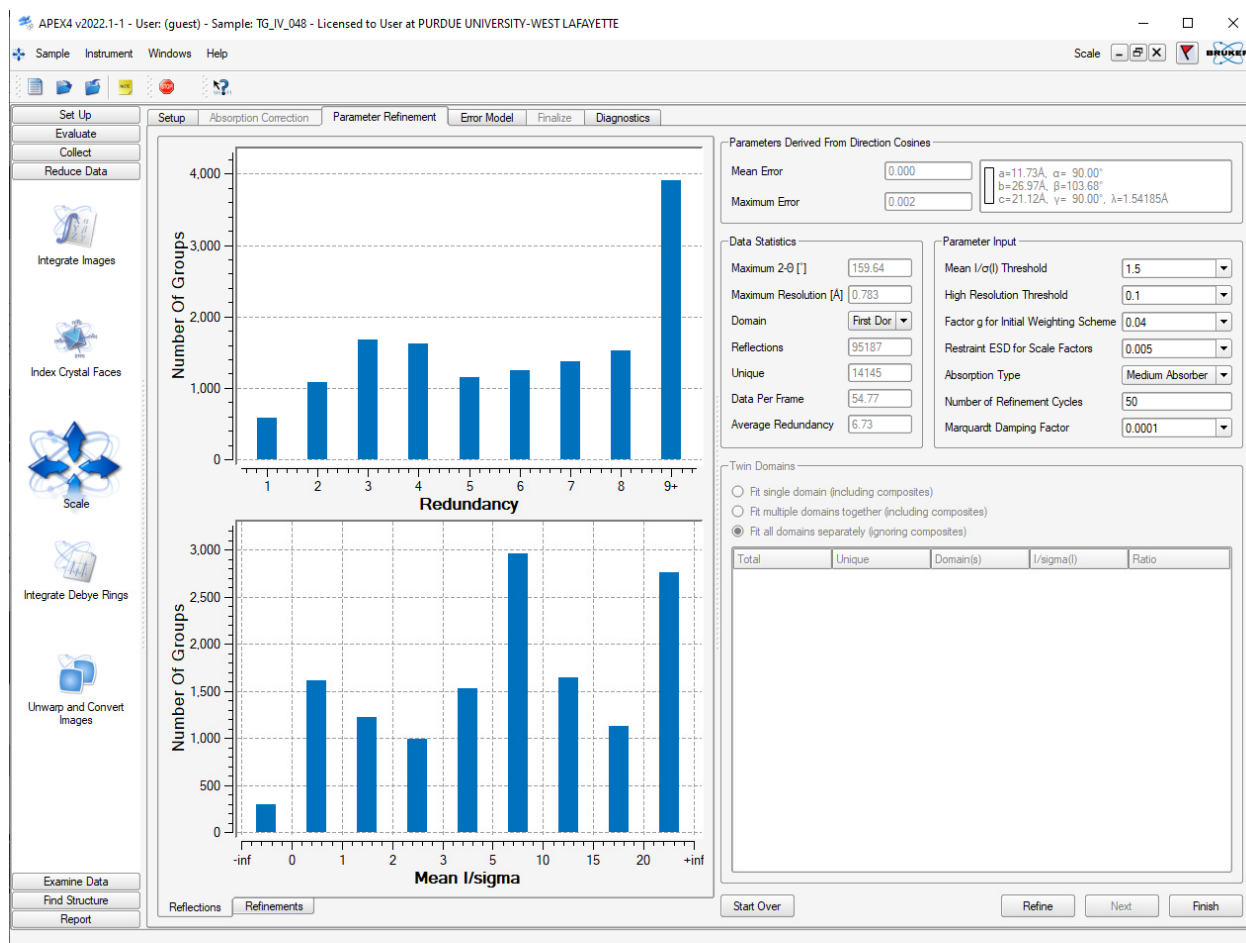

Figure 25, Absorption Correction window (second Scale Window) before refinement
- The parameter refinement window will open (Fig. 25). An average redundancy of around 5.0 is usually sufficient for weak to medium absorbing samples, but initial data can be processed